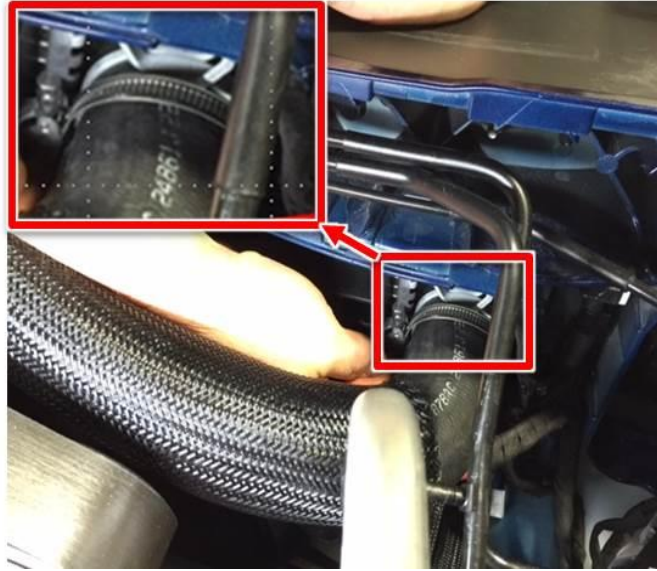

Fig. 21 Radiator Hose Clamp Orientation
54. Open the new clamp and place it over the radiator hose along side of the original spring clamp (**do not discard the old spring style clamp**). The hex head of the clamp should be facing up and be oriented on the core side of the radiator as shown in (Fig. 21).